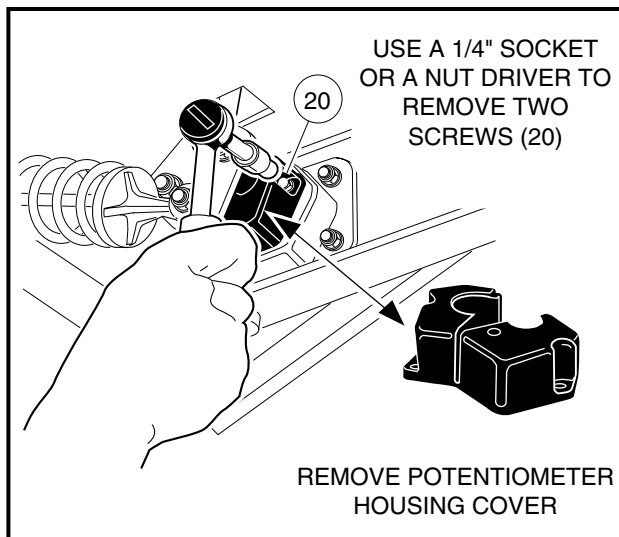

FIGURE 6-15
- 4.3. Use a 1/4" socket or nut driver to remove two screws (20) and detach the potentiometer housing cover **(Figure 6-15).**